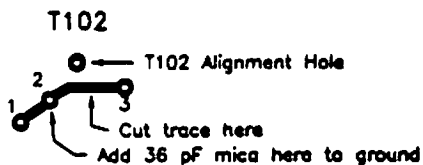

Figure 2
12. See Figure 2 and cut trace to front right of T102 between hole 2 and 3 of trace.